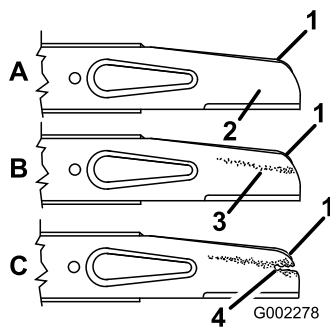

Figure 25
2. Remove the blade nuts, the accelerator, and the blade (Figure 25).